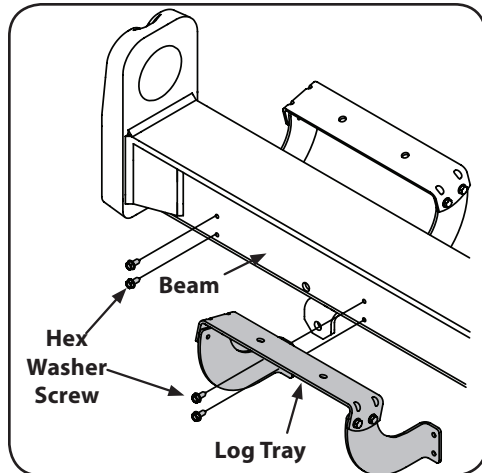

Figure 2-5
15. Disconnect the log tray from the beam on the control valve side by removing the two hex washer screws that secure it to the beam weld brackets and the two hex washer screws in the beam. See Figure 2-5.